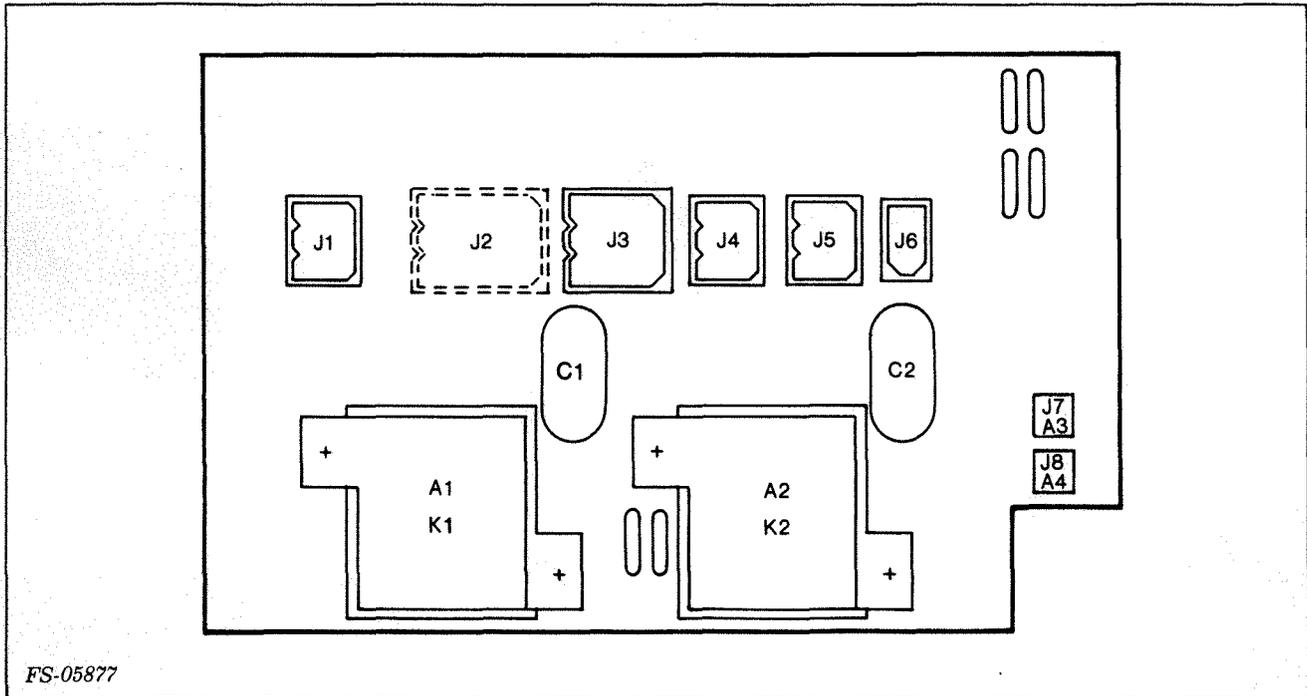

Figure 5-8. AC Power Distribution PCB, Connectors
7. Unplug the connector at J3 on the ac power PCB (see Figure 5-8) and disconnect the two wires connected to the capacitor.
10. Plug the motor connector into the ac power PCB at J3 (see Figure 5-8) and reconnect the two wires to the capacitor.
5. Unplug J3 from the ac power distribution PCB (see Figure 5-8).